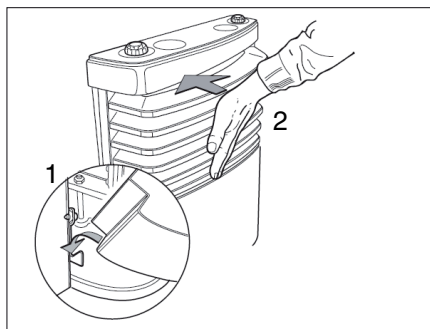

Fig. 107 Mounting the heater cover
- Mount the heater cover. To do so, insert the cover into the lower bracket (Fig. 107,1).
- Swivel the cover in until the catch levers engage audibly (Fig. 107,2).